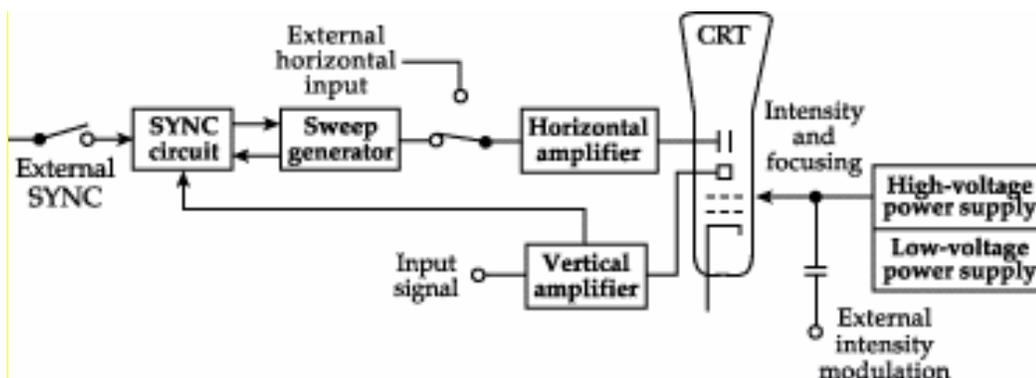

Figure D-2.
*The cathode-ray oscilloscope:* An oscilloscope is comprised of a CRT, a horizontal amplifier, a vertical amplifier, a sweep circuit, and a synchronization circuit, as illustrated in Figure D-2.